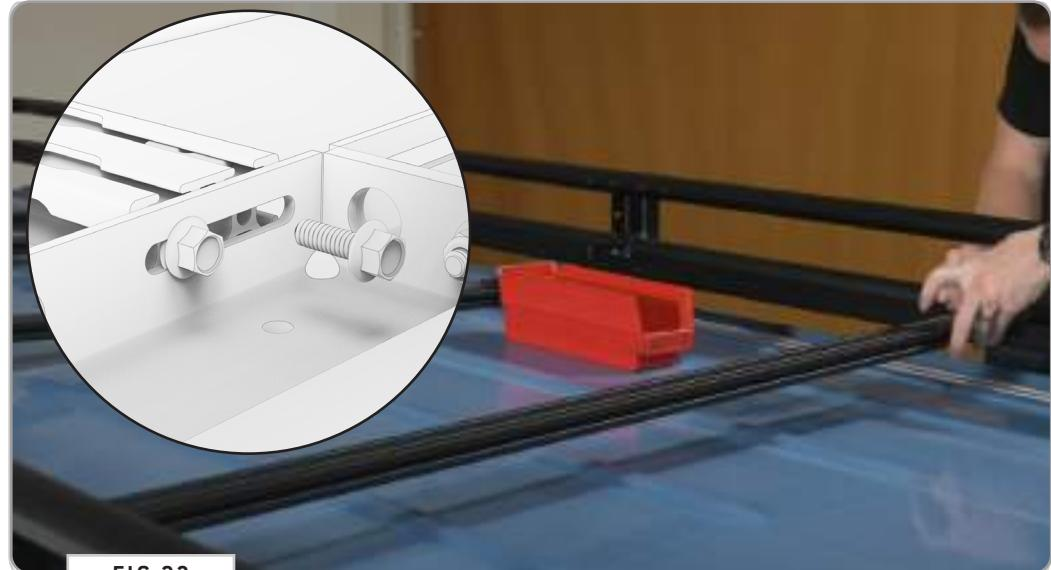

FIG 23
9.1 Attach Crossbars: Using (4ea) 1/4-20 Flanged Hex Bolts with Loctite (FIG 23), attach Crossbars to the rack in the locations shown in FIG 24. Be sure to measure both sides to ensure that the crossbars are square.